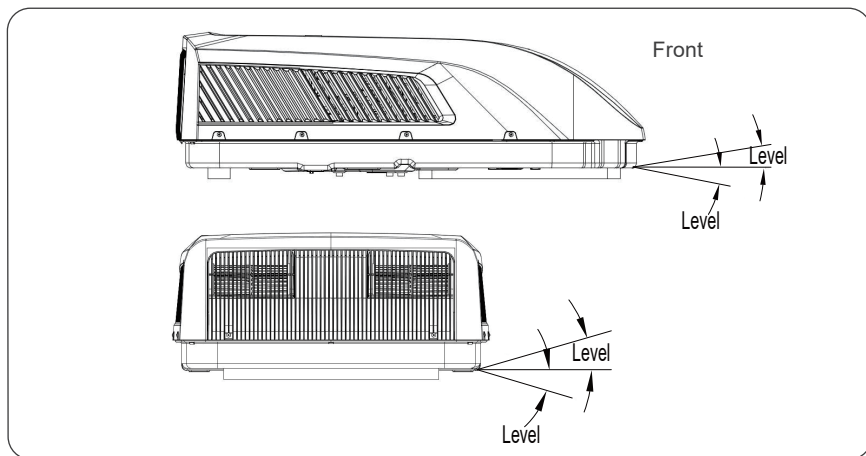

Figure 5
- Please make sure the rooftop air conditioner is mounted on a level plane from front to rear and side to side. Figure 5 shows the maximum allowable degrees that the unit can be mounted above or below level.